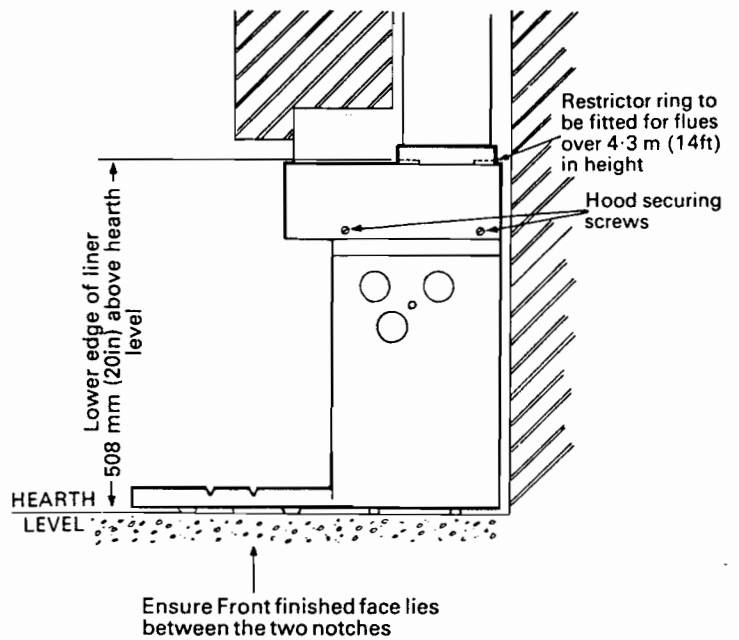

Fig. 4. Boiler in Builders Opening
Fitting the boiler (Fig. 4)
4. Lift the boiler off the transit base. Place the boiler in the builders opening, and remove the heat shield over the controls. Check that the front finished face lies between the two notches on the sides of the boiler base (Fig. 4) and that the arrowhead cut out at the front is on the centre line of the hearth. With the boiler now in position drill directly through the fixing holes and secure with the plugs and screws provided (See page 15).